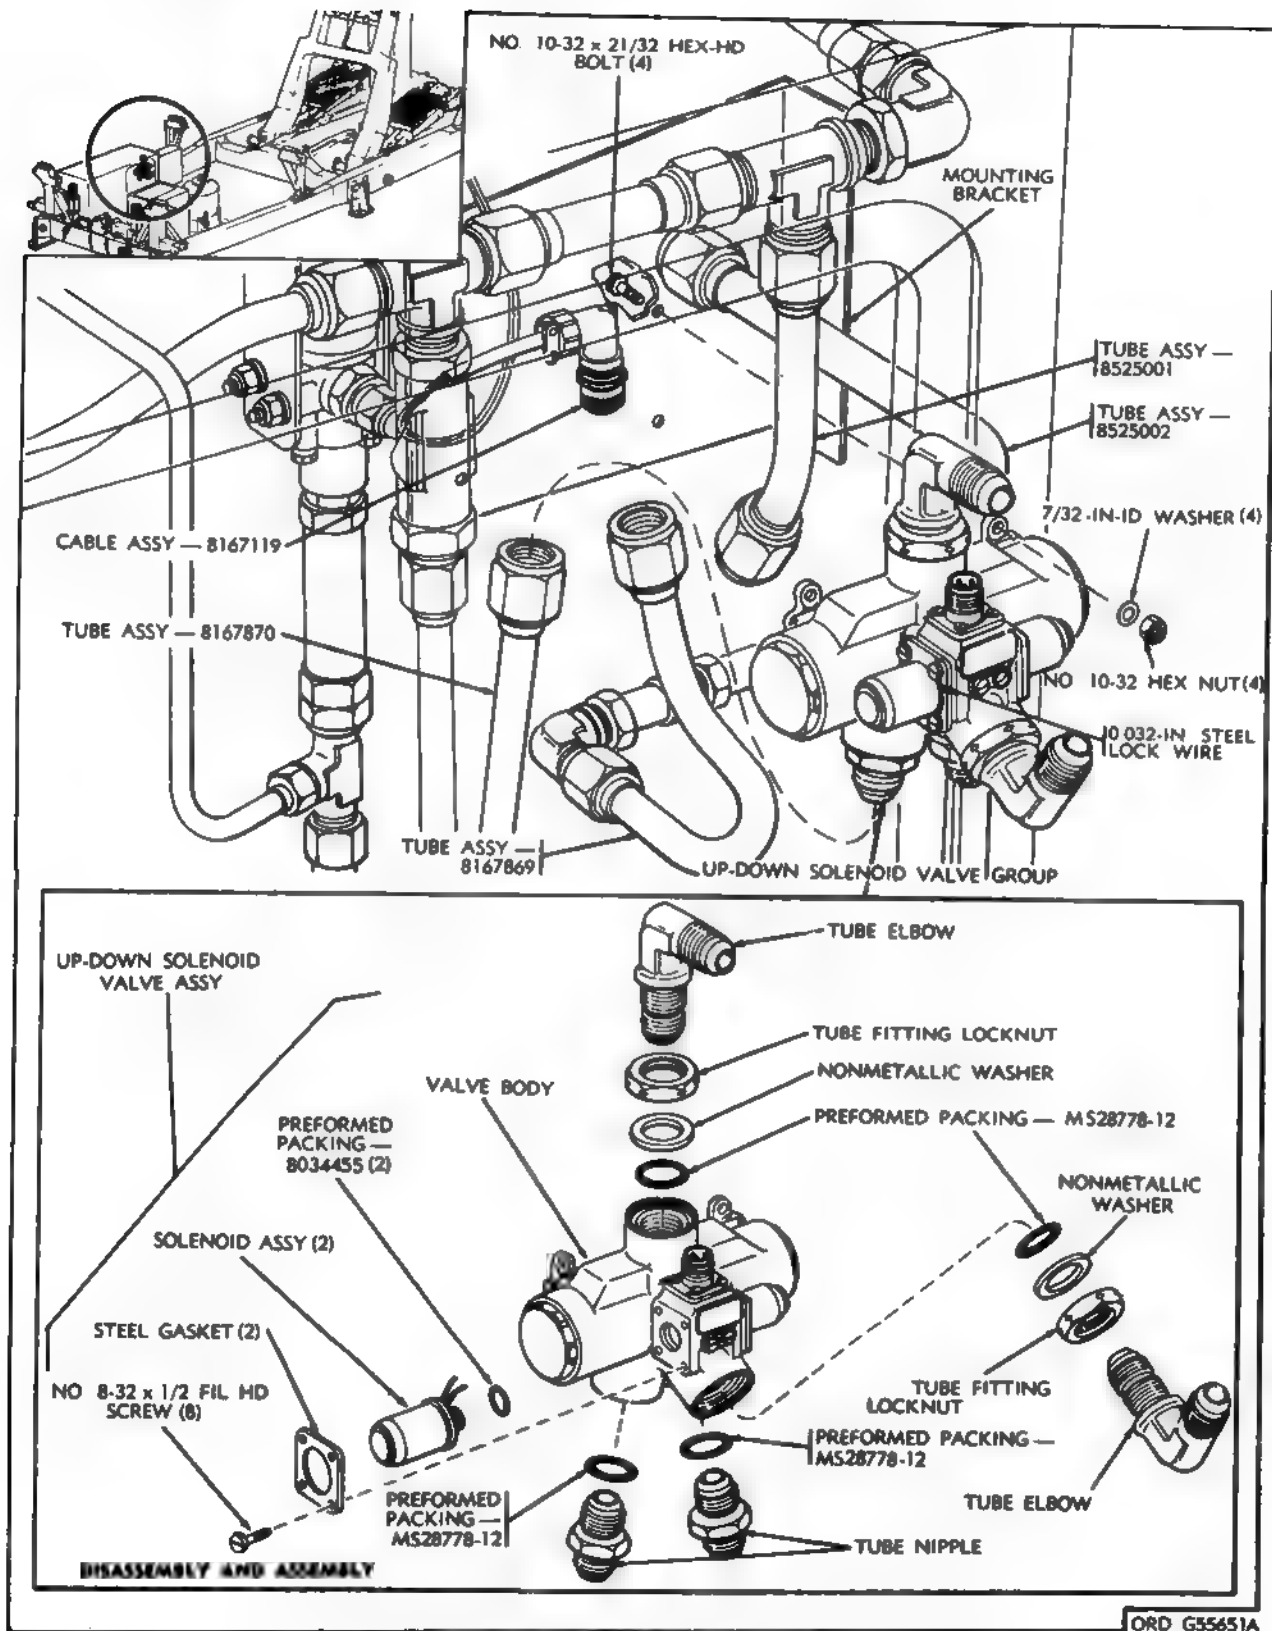

Figure 131. Up-down solenoid valve group—removal and installation.
- (e) Disconnect cable assembly from up-down solenoid valve group (fig. 131).
- (2) *Disassembly.*
- (3) *Assembly.*
- (4) *Installation.*
- (5) *Inspection and test.*
- (a) Check all hydraulic connections for fluid leakage; if there are any leaks, remove attaching tube assembly (fig. 131) as described in w (1) below.
- (c) Replace all defective parts and install tube assembly as described in w (2) below.